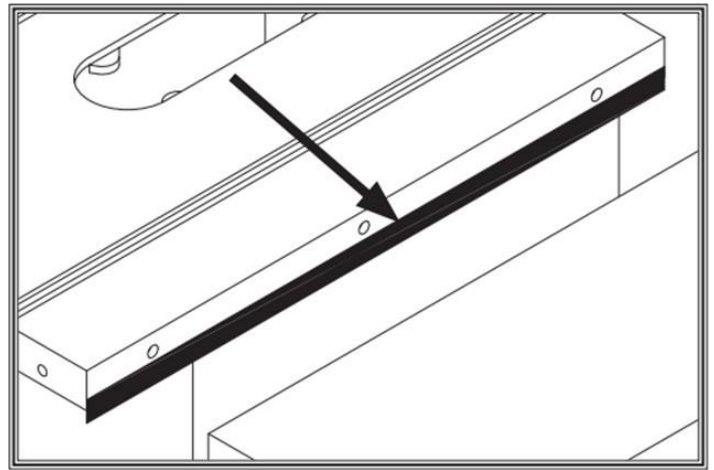

Figure 14: shim location for lifting the wing up.
- If the outside end of the extension wing is pointing down, uninstall the wing and place a strip of masking tape along the bottom of the edge of the main table to create a shim the wing will point up (see figure 14).